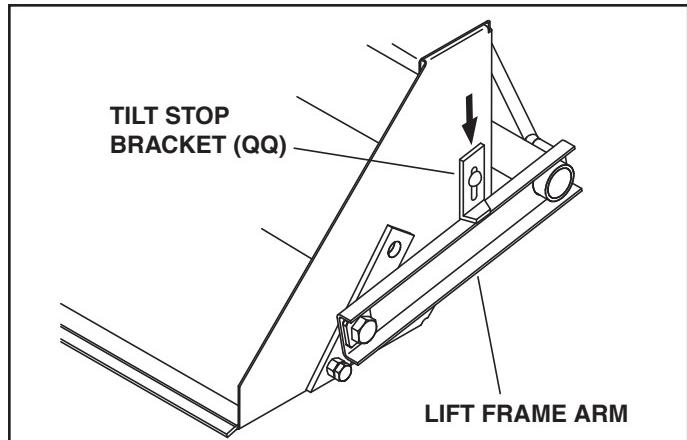

FIGURE 27
STEP 28: ADJUST TILT STOP BRACKETS (SEE FIGURE 27)
- Raise the scoop until it locks in the TRANSPORT position. Push the tilt stop brackets (QQ) on each side of the bucket down against the lift frame arms, and tighten the nuts.